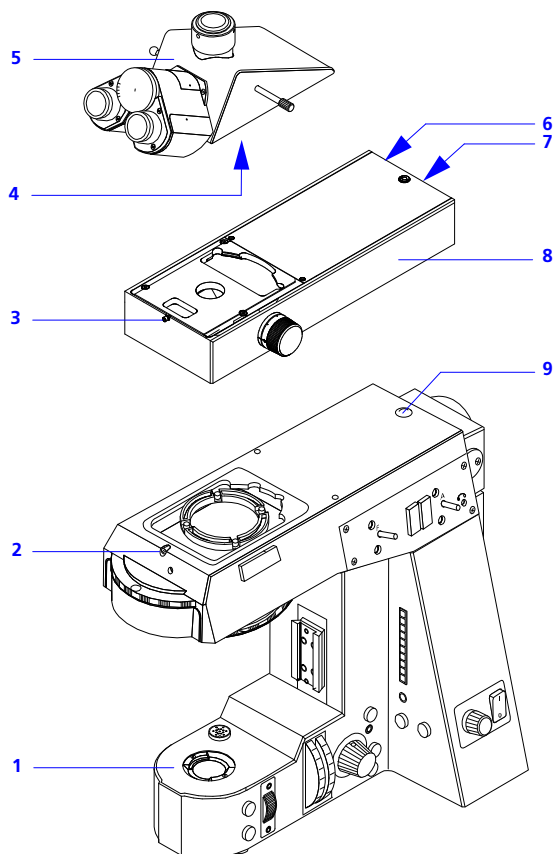
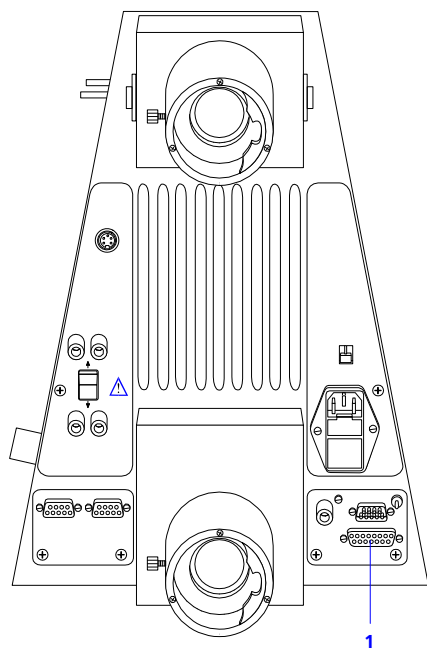

Fig. 95 Mounting of intermediate tube
Fig. 96 Back of stand
- Loosen clamping screw (2) on stand (1) and remove the tube (5) upwards.
- Attach the intermediate tube (8) to the stand. Centration is made using the dovetail.
- Tighten clamping screw (2) on stand only slightly at first.
- Insert the supplied clamping screw with washer (7) into the drilled hole provided and screw it into the threaded hole (9) of the stand.
- Align the intermediate tube with the edges of the intermediate tube and screw tight clamping screws (2) and (7).
- Remove the tube lens (4) from the tube because a tube lens is integrated in the intermediate tube.
- Attach the tube (5) to the intermediate tube (8) and center via the dovetail.
- Align the tube with the edges of the intermediate tube and tighten the clamping screw (3).
- For coded or motorized intermediate tubes, connect the serial interface of the intermediate tube (Fig. 95/6) with that of the stand (Fig. 96/1) via the RS 232 C serial cable supplied.